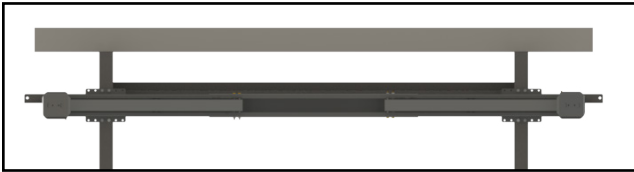
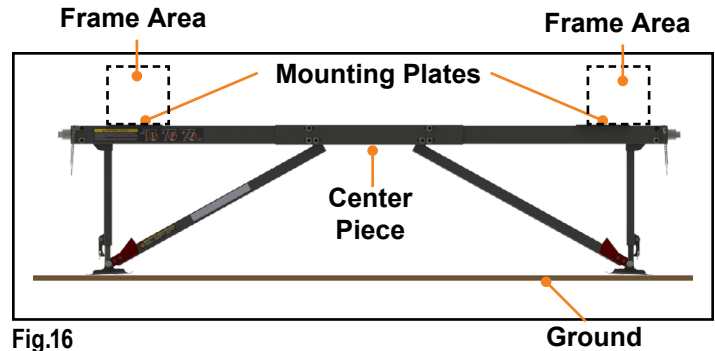

Fig.14
Fig.16
3. Mount stabilizer assembly across the trailer, from frame to frame, and center (Fig. 14). The stabilizer mounting brackets should equally extend over and outward from the frame as determined (Fig. 15A). Make sure stabilizer assembly is center and mounting brackets are extending equal distance.
NOTE: Figure 14 shows Quick Drop Stabilizer upside down, as if the looking from the ground up underneath trailer. Figure 16 shows Quick Drop Stabilizer from a horizontal view to provide clarity.